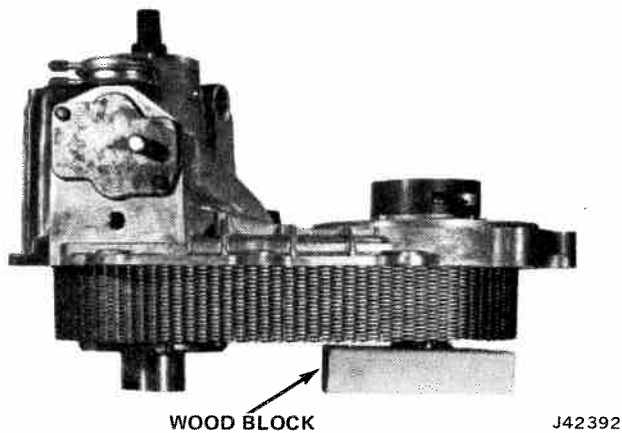

Fig. 8-41 Transfer Case Cover Positioned for Disassembly
(3) Using a piece of wood 2 by 4 by 6 inches long, position cover and sprocket (fig. 8-41).
(4) If not equipped with reduction unit, remove drive hub and sleeve from drive sprocket rear splines by expanding internal snap ring (the ring expanding tabs are accessible through a slot in the outside edge of the drive sleeve).
(5) If equipped with reduction unit, remove pinion cage snap ring and carrier.
(6) Lift case cover from drive sprocket and differential. The cover, rear output shaft, bearings and seal, drive sprocket rear needle bearing, and lockup hub may be serviced without disassembly of other units. Refer to appropriate headings in Subassembly Service for detailed procedures.
(7) Slide drive sprocket toward differential unit and remove chain.
(5) Using a piece of wood 2 by 4 by 6 inches long, position cover and sprocket (fig. 8-41).
(6) If not equipped with reduction unit, remove drive hub and sleeve from drive sprocket rear splines by expanding internal snap ring.